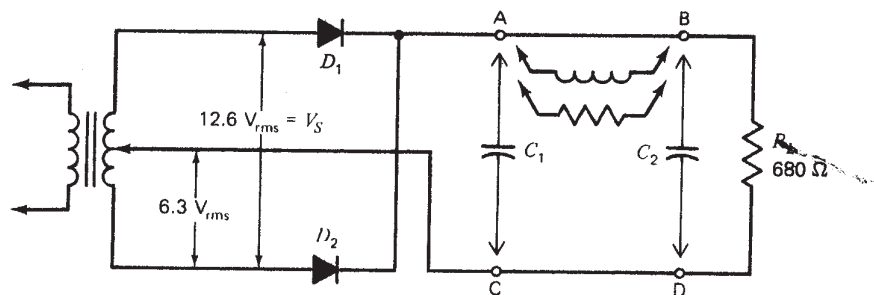

Fig. 55-3. Full-wave center-tap circuit.
8. Connect the full-wave center-tap circuit shown in Fig. 55-3 with the load resistor only (omit the "arrowed" components).
Note: Procedures 9 to 14 refer to Fig. 55-3 as altered for each specific filter configuration. Do not remove a filter component unless you are instructed to do so. The inductor is also called a "choke."